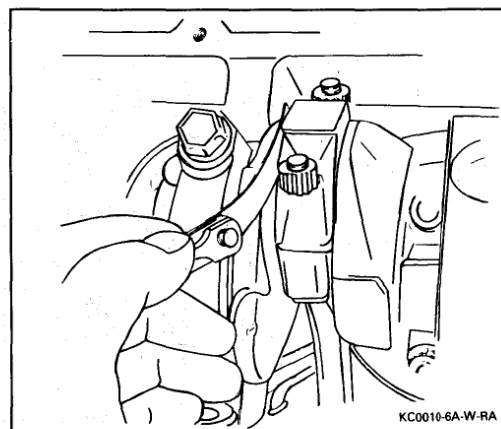

Figure 67 Measuring Connecting Rod Side Clearance
- Connecting rod side clearance (Figure 67).